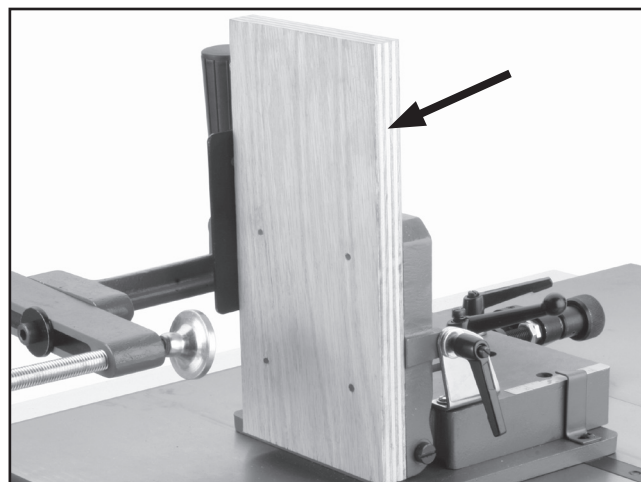

Figure 18. Work support spacer block.
3. Cut a wooden spacer block the same thickness as the tenon plus the saw blade. Screw through the holes in the work support plate to attach the spacer block (see **Figure 18**).